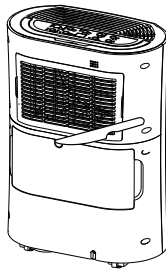

Fig. 5
3. Remove the drain cover (9) from the water tank (7) (Fig. 5). Removing the water tank (7) in advance will provide better access.